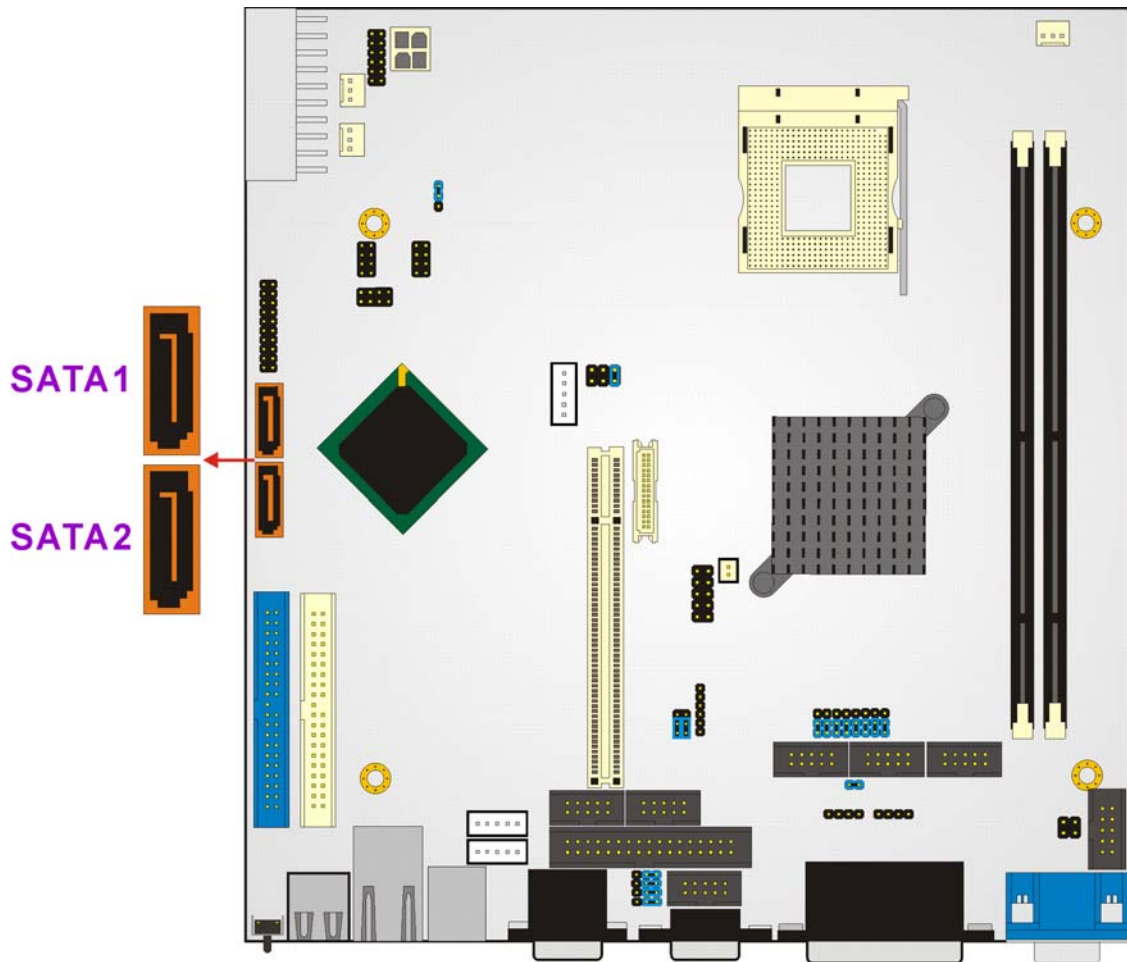

Figure 3-19: SATA Drive Port Locations
- CN Location: See Figure 3-19